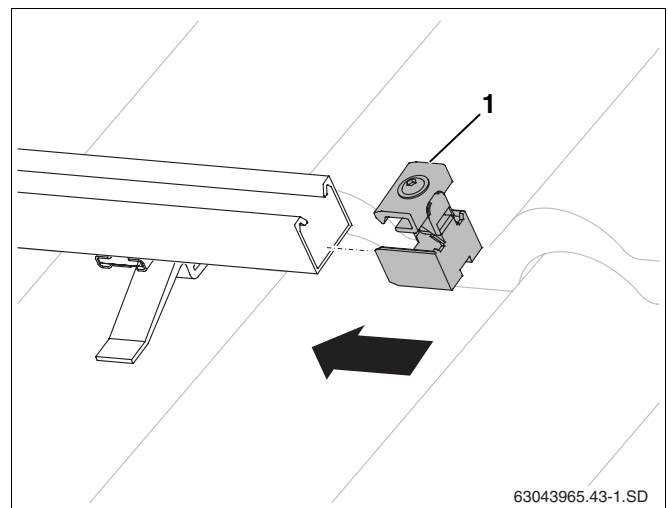

Fig. 41 Pushing on the single-sided collector clamp
- ▶ Push single-sided collector clamps (Fig. 41, **Item 1**) into the profile rails at the right-hand end of the collector array until they click into place in the first slotted hole on the profile rails.